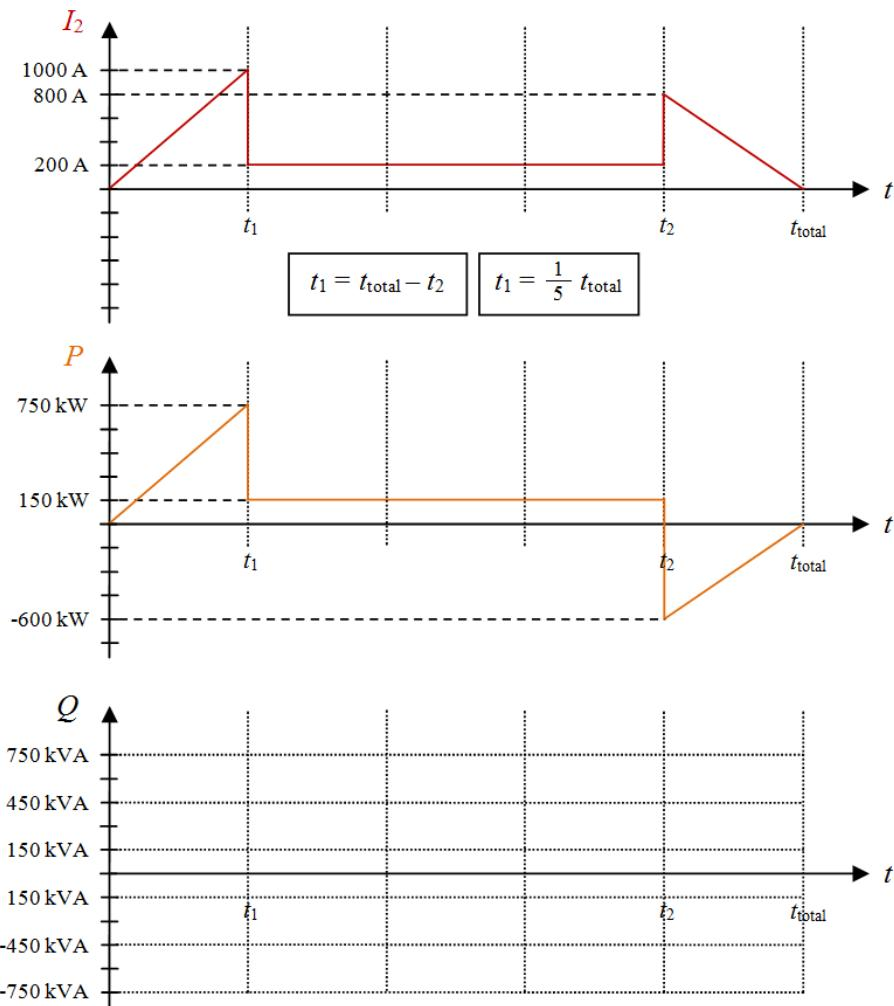

Figure 3.3: Diagrams showing secondary side current (top), active power (centre) and reactive power (bottom)
In Figure 3.3 the root mean square value of the secondary current I_2 and the power P drawn from the grid were recorded during the ride of the train from one station to the next. The ride required a total amount of energy of $W = 3.5 \text{ kWh}$.
- 3.5 Calculate the reactive power Q which is required by the transformer and delivered by the 4QC for the three cases of subtask 3.4), insert the calculated values in the power diagram in Figure 3.3 and sketch roughly its course.